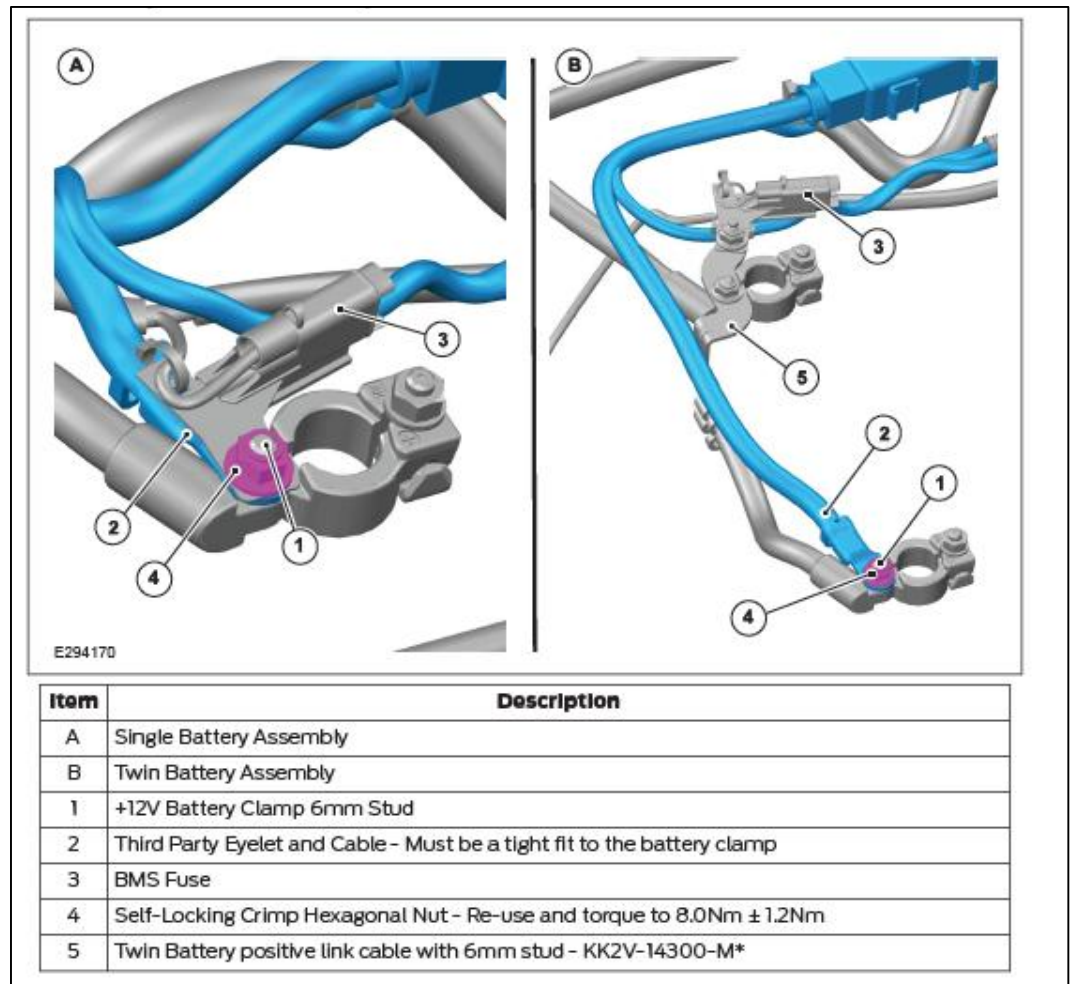

Figure 15: Battery diagram from 2020 Ford Transit Body and Equipment Mounting Manual (BEMM).
15. **Connect** the positive(+) lead to the M6 stud on the positive battery clamp. Reuse the M6 lock nut, when possible (Figure 15).